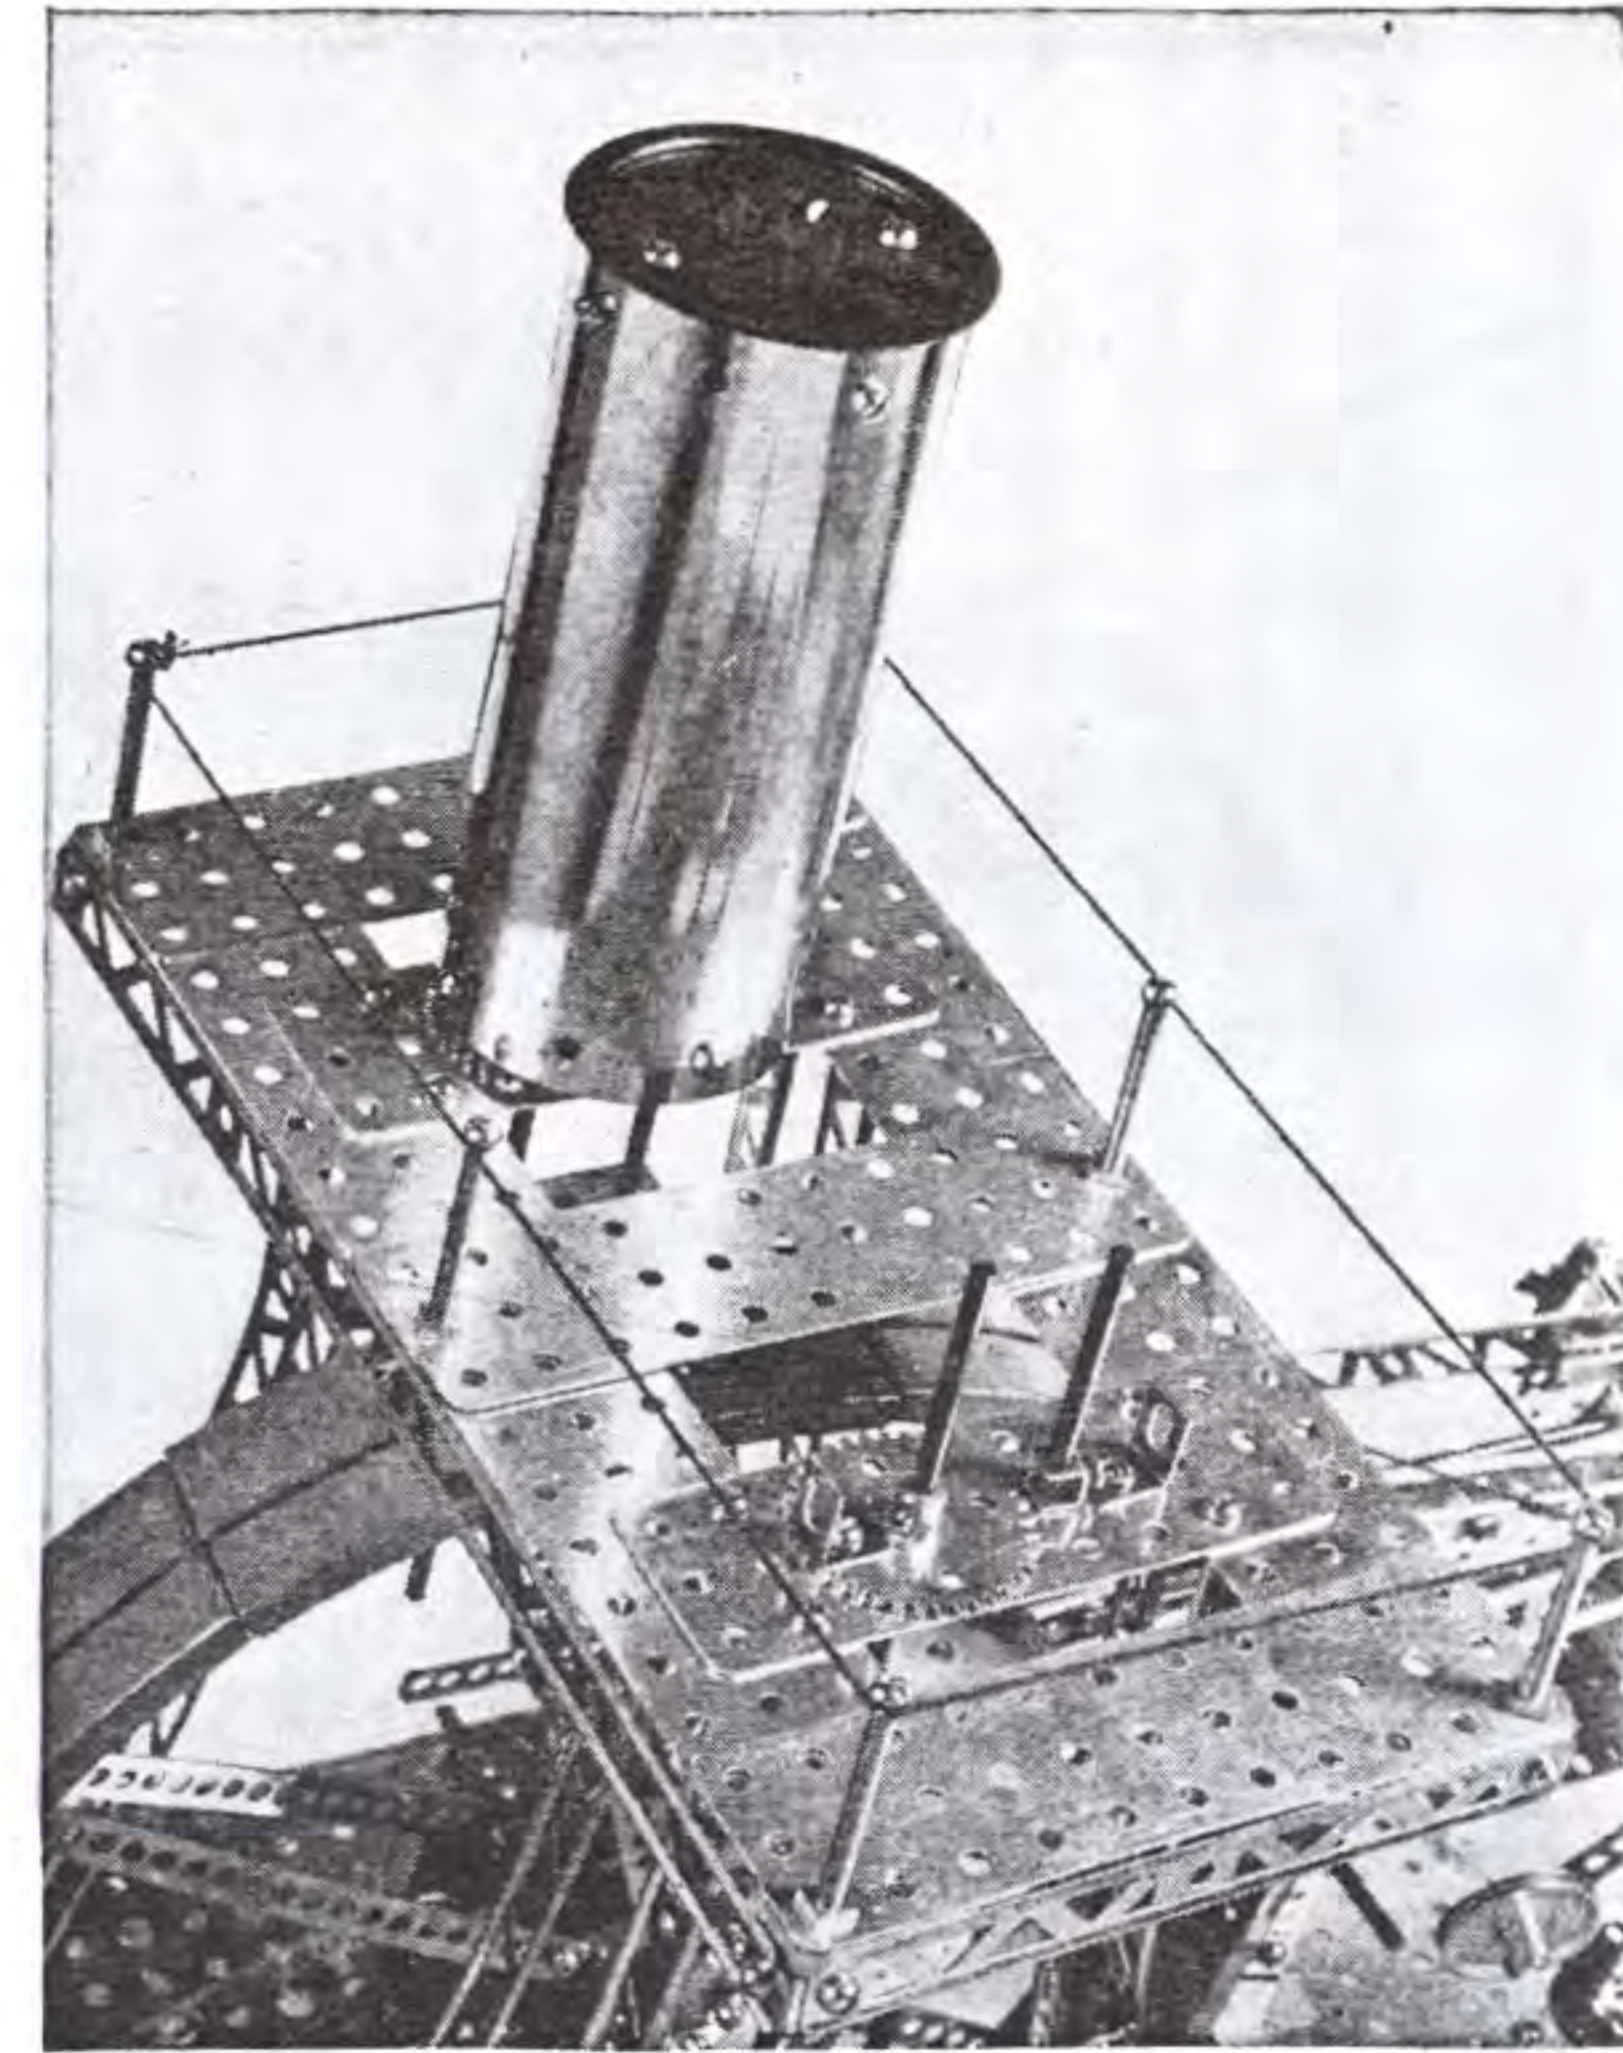

FIGURE 6
To the 8 (C) 10" girders that form the tower supports is fastened the tower platform with 8 (CH) right angles. The platform is made with 7 (MF) 1" x 5" base plates and 2 (ME) 1" x 4" base plates with 2 (C) 10" girders and 2 (B) 5" girders as shown in Figure 6. One of the boilers has been removed in this picture so you might see the (CJ) 36 tooth gear, the (2) 7" axles, and the (CH) right angles that are fastened to each (ME) 1" x 4" base plate. Under the boiler is a (CJ) 36 tooth gear, two 8" axles, 2 (CH) right angles, and a (BH) solid collar that keep one of the axles from moving up. The other axle is kept from moving up by fastening it to the 36 tooth gear. Two (T) boilers are mounted to the (CH) right angles on top of the tower. These boilers represent compressors in the original Corliss engine. Eight (FA) 1 $\frac{3}{4}$ " x 8-32 screws are used with string to form a guard railing on the tower platform.